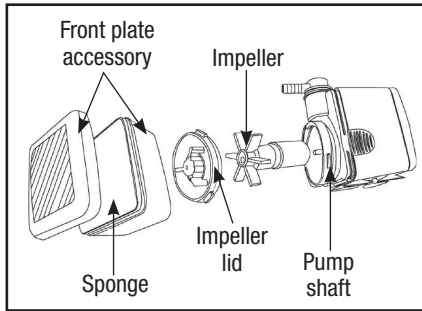

FIGURE 25
1. Disassemble the water pump to see if any cracks or dirt are inside (FIGURE 25).